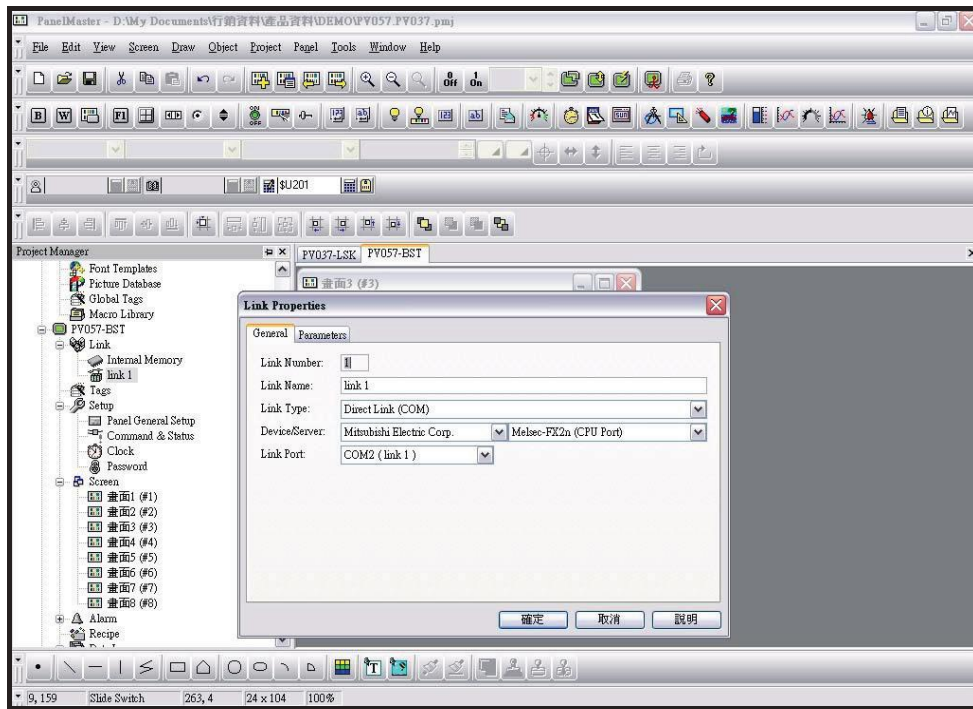

Figure 2-96 New project_step 5_ setting the second communication device
Step 5 : When the setting completed, the user can add another communication devices; S7-200 PLC in com2 as shown in figure 2-96.